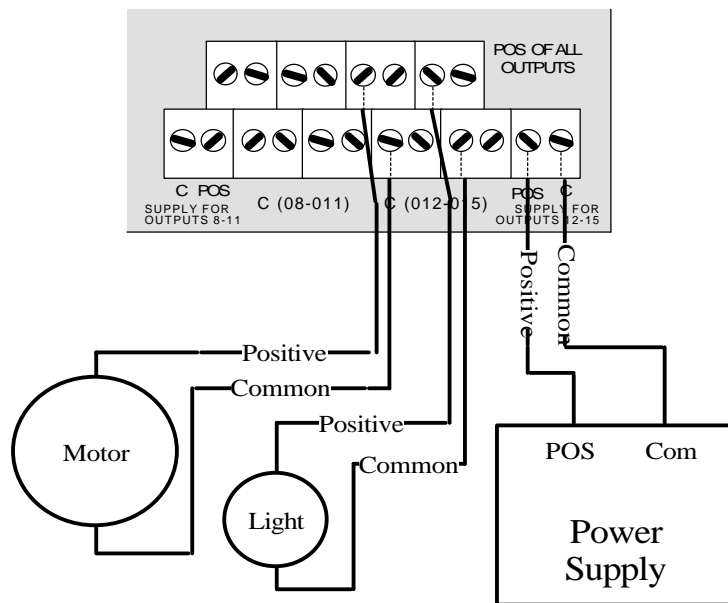

Figure 21 – Connecting Output Loads to the 5021 and 5031.
- Connect power supply to POS & C of SUPPLY FOR OUTPUTS 12 – 15 as shown in figure 21.
- Connect loads between 'POS' & C (12 – 15) as shown in figure 21.